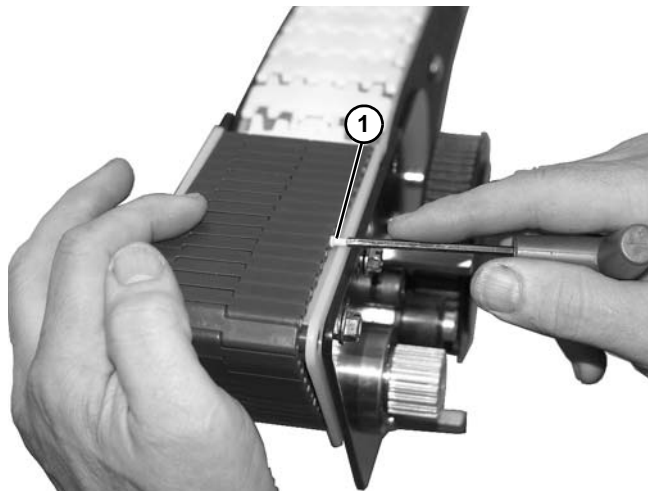

Figure 175
7. Bring ends of belt together and install pin (Figure 175, item 1).